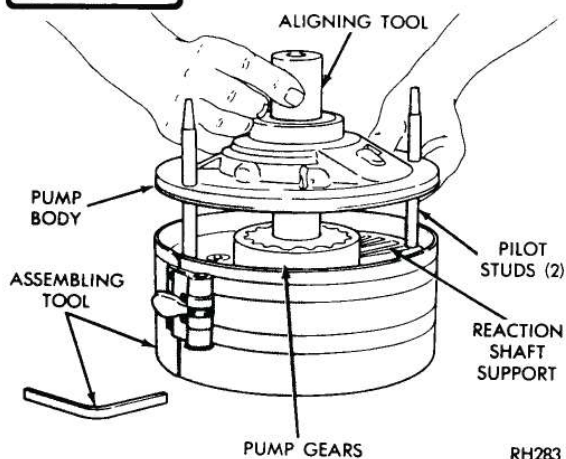

Fig. 13—Assemble Pump and Reaction Shaft Support (A-904T and A-999)
(1) Place reaction shaft support in assembling Tool C-3759, with hub of support and tool resting on a smooth, flat surface bench (Fig. 13). Screw two pilot studs Tool C-3283A into threaded holes of reaction shaft support flange.
(2) Assemble and place pump gears in center of the support.
(3) Lower pump body over the pilot studs, insert Tool C-3756 through pump body and engage pump inner gear. Rotate the pump gears with tool to center gears in pump body, then with pump body firm against reaction shaft support, tighten clamping tool securely.
(4) Invert pump and reaction shaft support assembly with clamping tool intact. Install support to pump body bolts and tighten to 175 in. lbs. (20 N-m). Remove clamping tool, pilot studs, and gear alignment tool.
(5) Place a new oil seal in opening of pump housing (lip of seal facing inward). Using Tool C-4193 and handle Tool C-4171, drive seal into housing until tool bottoms.